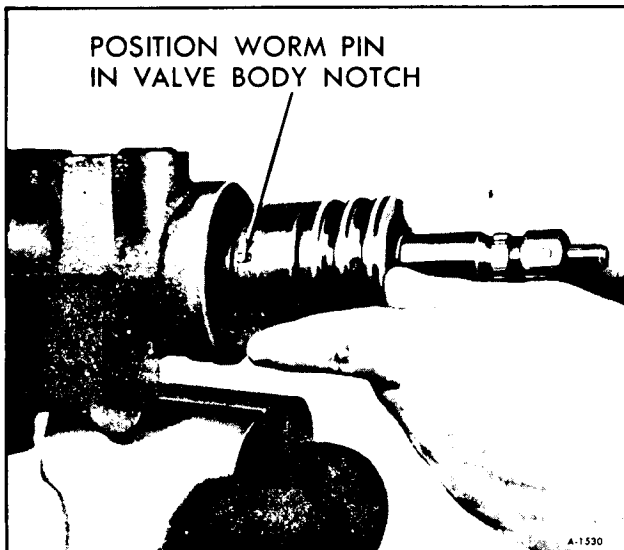

Figure 48-Valve to Worm Alignment
2. Lubricate the valve body teflon rings and a new cap to body "O" ring with Power Steering Fluid. Install the cap to body "O" ring in the valve body so it is seated against the lower shaft cap. Align the NARROW NOTCH in the valve body with pin in the worm, then install the valve and shaft assembly in the gear housing (figure 48). Apply pressure to the VALVE BODY when installing. If pressure is ap-